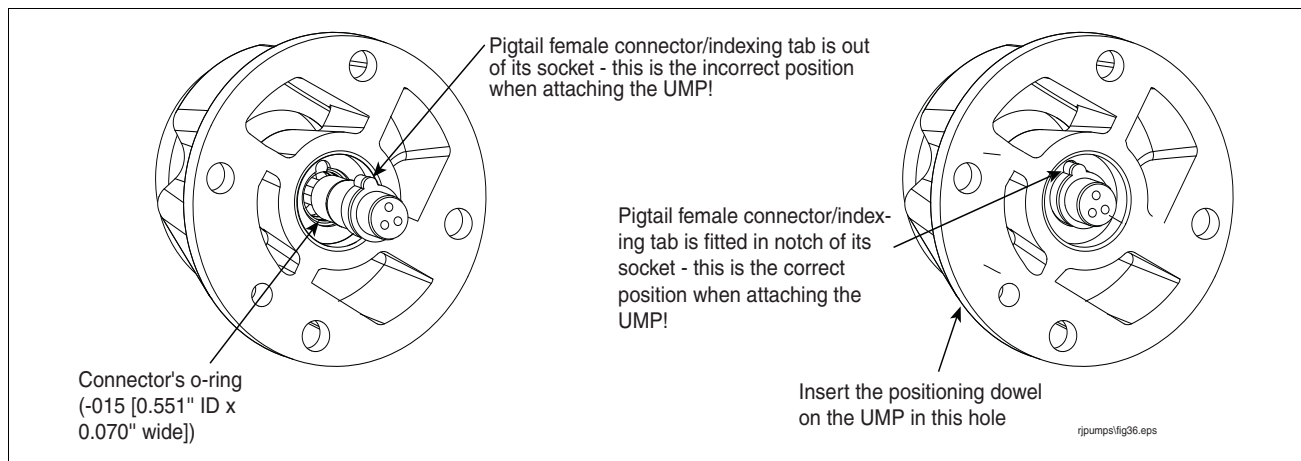

Figure 28. Verifying Pigtail's Female Connector Is Seated Properly
8. Pull the pigtail connector in the discharge head out far enough to see the O-ring in the sidewall of its socket (see Figure 28). Remove the connector's O-ring from the connector's socket and discard it. Get a 0.551" ID x 0.070" wide O-ring from the Hardware/Seal Kit and lubricate it with petroleum jelly. Slide the new O-ring over the pigtail connector and push it in the groove in the wall of the connector's socket. Lubricate the pigtail connector body with petroleum jelly and push it back into its socket, making sure its index tab is in the socket's notch.
10. Align the UMP positioning dowel so it inserts in the proper hole in the discharge head (see Figure 28) and push the UMP into position using hand force only. The UMP should be snug against the discharge head prior to installing the UMP retaining bolts.
11. Push the pigtail wires into the connector's socket until they exit into the packer's wiring compartment. At the discharge (connector) end of the pigtail, rub some petroleum jelly over the connector's outside surface and push it into its socket in the discharge head. Take care to align the connector index tab with the notch in the socket as shown in the drawing on the right in Figure 28 on page 32.
13. Align the UMP positioning dowel so it inserts in the proper hole in the discharge head (again ref. Figure 28 on page 32) and push the UMP into position using hand force only. The UMP should be snug against the discharge head prior to installing the UMP retaining bolts.